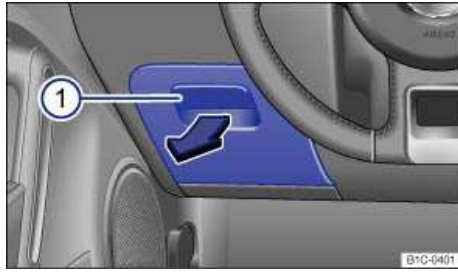

Fig. 99 On the driver side: Storage compartment.
To *open* the compartment, pull the handle ⇒ fig. 99 (1) in the direction of the arrow.